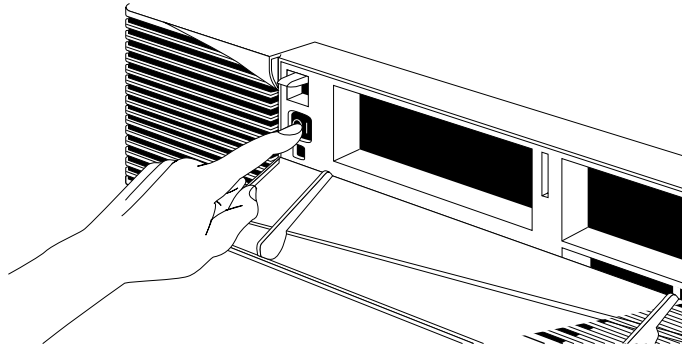

Figure 2-2 Pressing and releasing the power switch
2. Press and release the power switch, as shown in Figure 2-2.